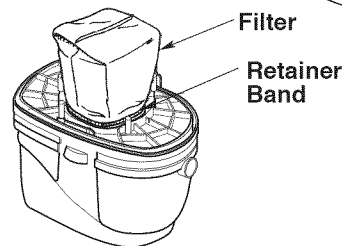

FIGURE 3
5. Make sure the retainer band is positioned on the filter bag between the printed lines (See Figure 3).